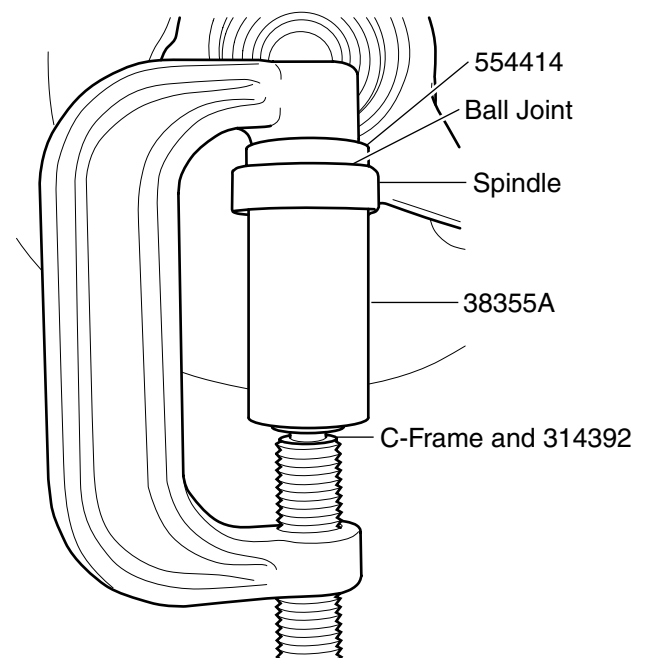

Figure 2. Ball Joint Installation
3. Position 38355A on the ball joint as shown in Figure 2.